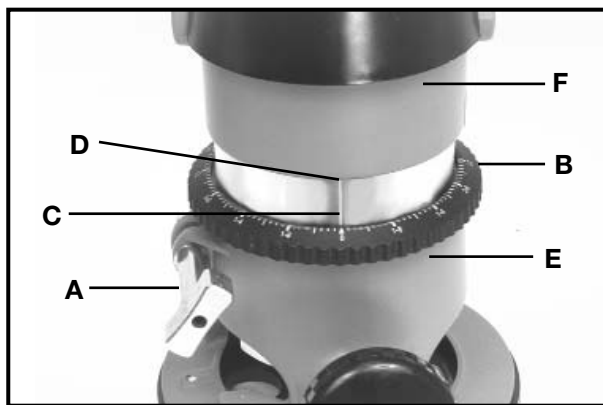

Fig. 3
2. Loosen clamp screw (A), Fig. 3.
3. While holding base (E), turn motor unit (F), Fig. 3, **COUNTERCLOCKWISE** until the tip of the bit is above bottom surface of base.
5. Turn motor unit (F), Fig. 3, **CLOCKWISE** until bit touches the wood surface.
6. Tighten clamp screw (A), Fig. 3.
7. Rotate depth adjusting ring (B), Fig. 3, until the zero-line (C) is opposite the index line (D) on the housing.
8. Loosen clamp screw (A), Fig. 3.
9. Tip the router so bit is clear of the wood surface. Turn motor unit (F), Fig. 3 CLOCKWISE until the index line (D) on the motor housing reaches the desired depth indicated on the ring.
10. Tighten clamp screw (A), Fig. 3 firmly.